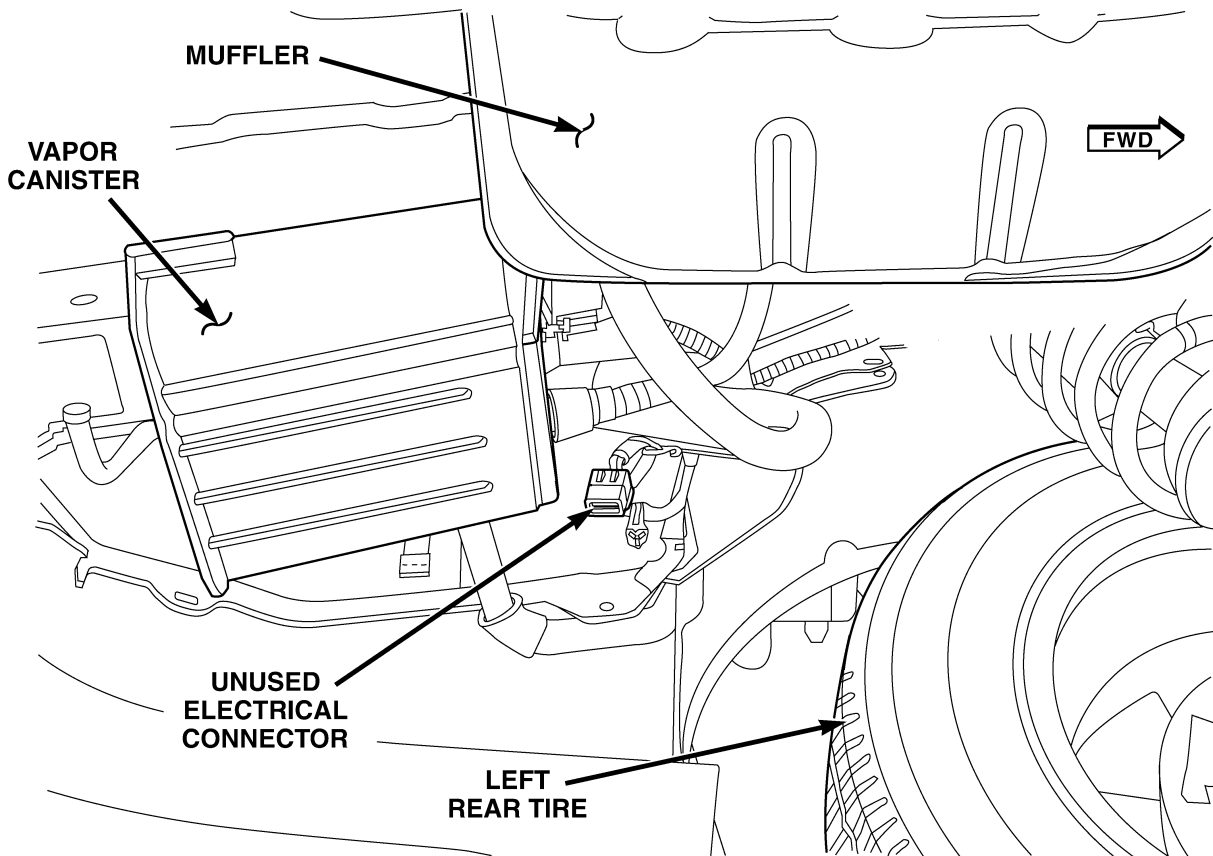

Figure 4 – Left Side Shown
14. Inspect the left and right rear wheel well areas to determine if there is an unused **left and right** side rear tire pressure monitor electrical connector (Figure 4).